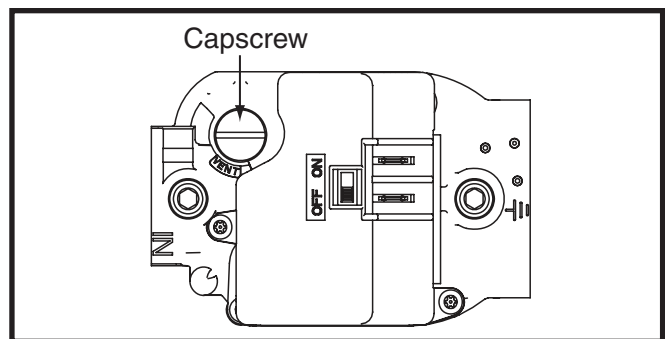

Figure 19. Regulator Capscrew
7. Remove the regulator capscrew from the INLET side of the regulator. See Figure 19, \(page 20\).